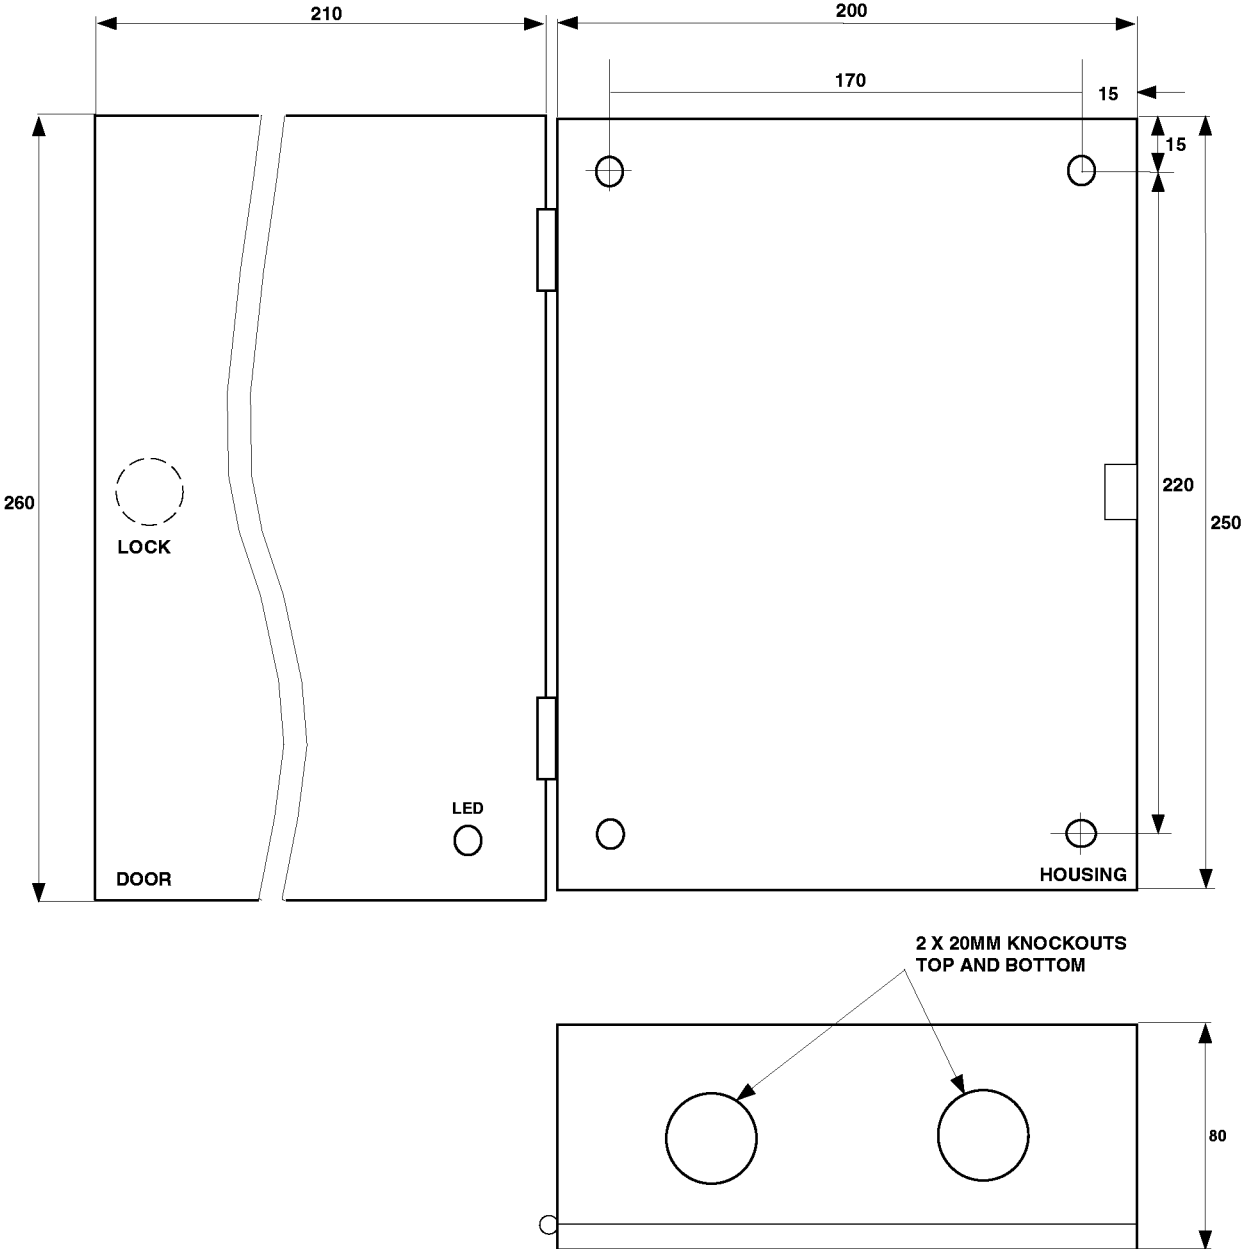

Fig. 6 Control Box - Overall and Fixing Dimensions
- f) For retro-reflective operation mount the reflector using suitable screws (see Fig.6).